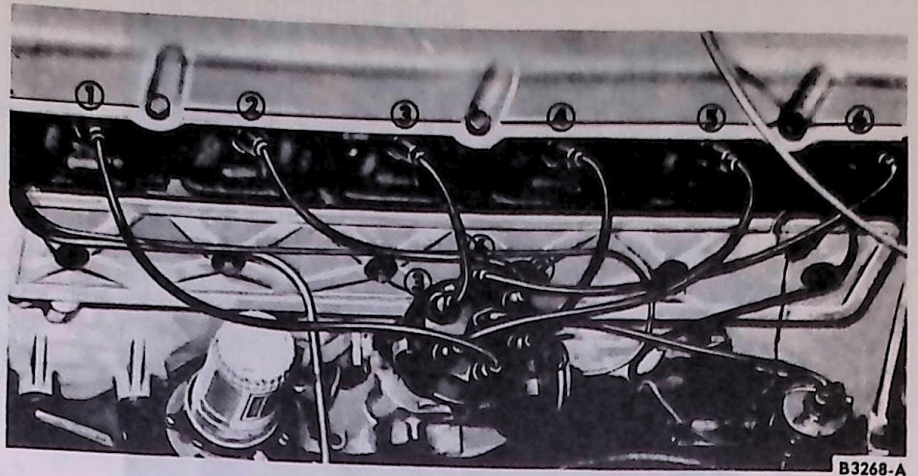

FIG. 24 Typical Ignition Wiring—Six-Cylinder Engine
The ignition wiring installations are shown in Figs. 24 and 25.
1. Insert each wire in the proper socket of the distributor cap. Be sure the wires are forced all the way down into their sockets. The No. 1 socket is identified on the cap. On six cylinder engines install the wires in a clockwise direction (Fig. 24). On V-8 engines except Super Duty install the wires in a counterclockwise direction in the firing order (1-5-4-2-6-3-7-8) starting at the No. 1 socket. Cylinders are numbered from front to rear; right bank 1-2-3-4, left bank 5-6-7-8.